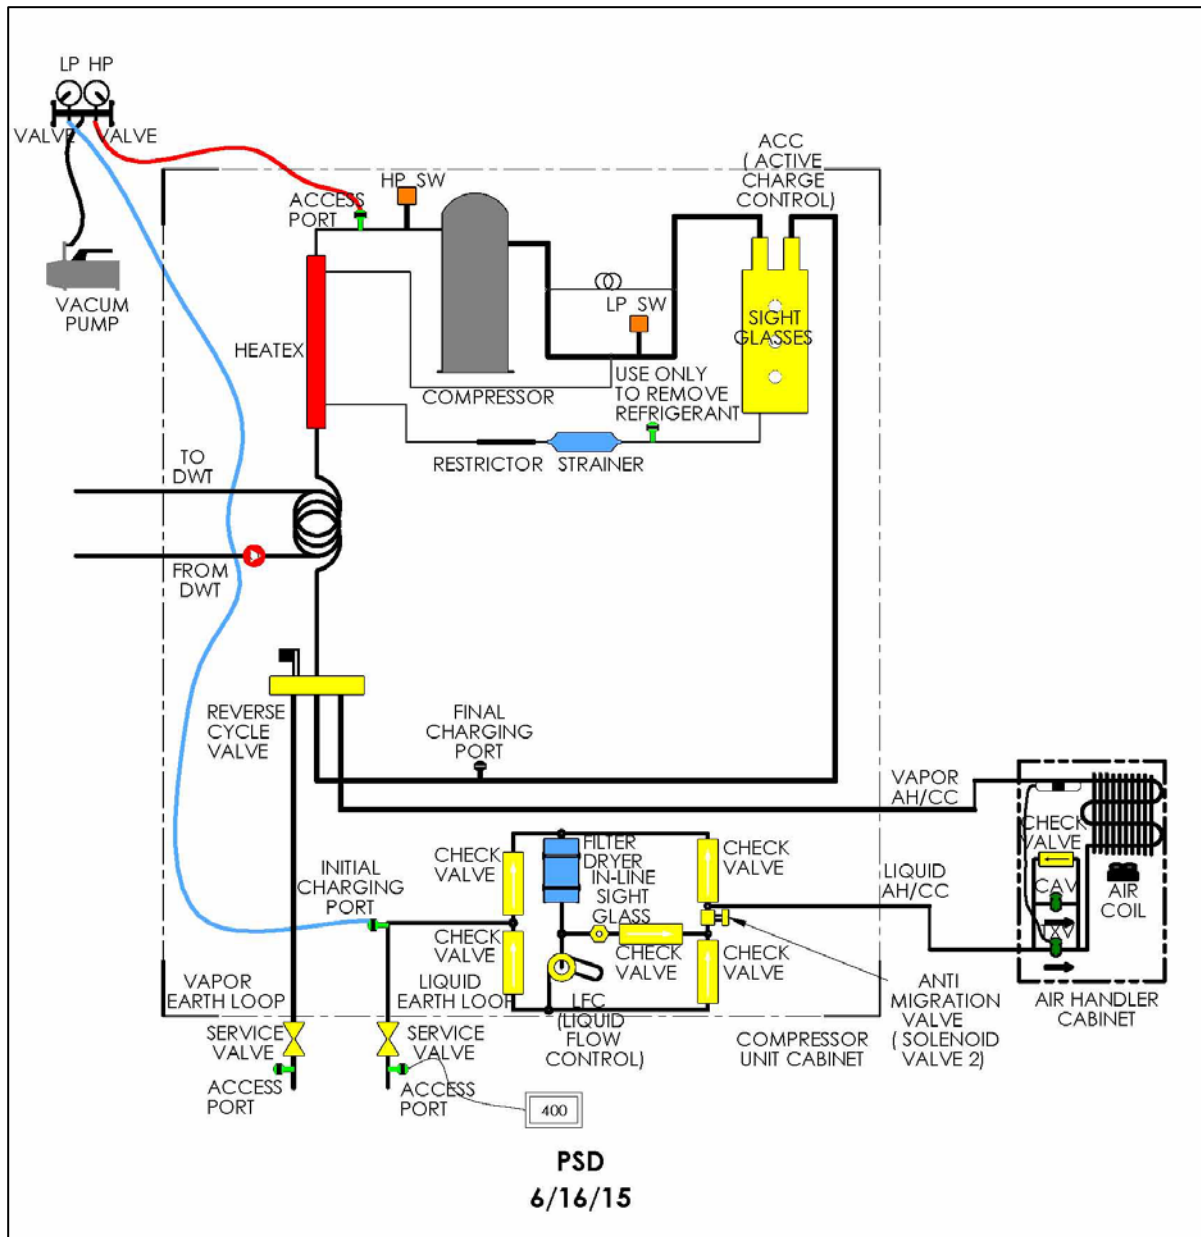

Figure 26. Evacuation of PSD System
Refer to Figure 26 and the following procedure:
2. After venting the pressurized system, a good quality gage manifold and a non-permeable hose set as shown in Figure 26. If possible, use two Schrader core removal tools. Install one on the discharge line access port and the other on the initial charging port. Removal of the Schrader cores will reduce the time to achieve the desired vacuum.
3. Attached a good quality digital vacuum gage with an isolation valve to the liquid line service valve access port as shown in Figure 26.
5. Fully open the LP and HP valves and both service valves. Reference Figure 26.